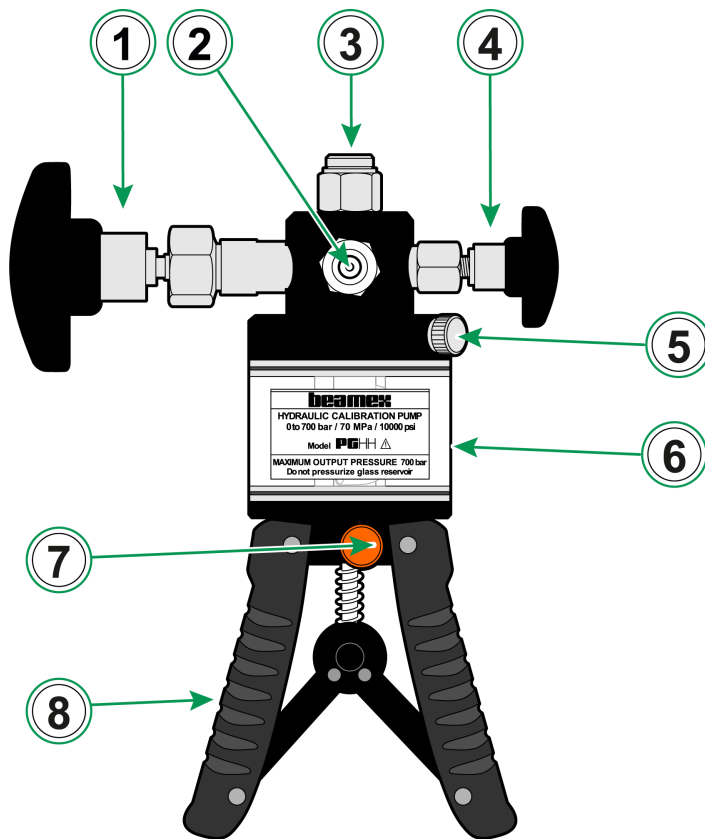
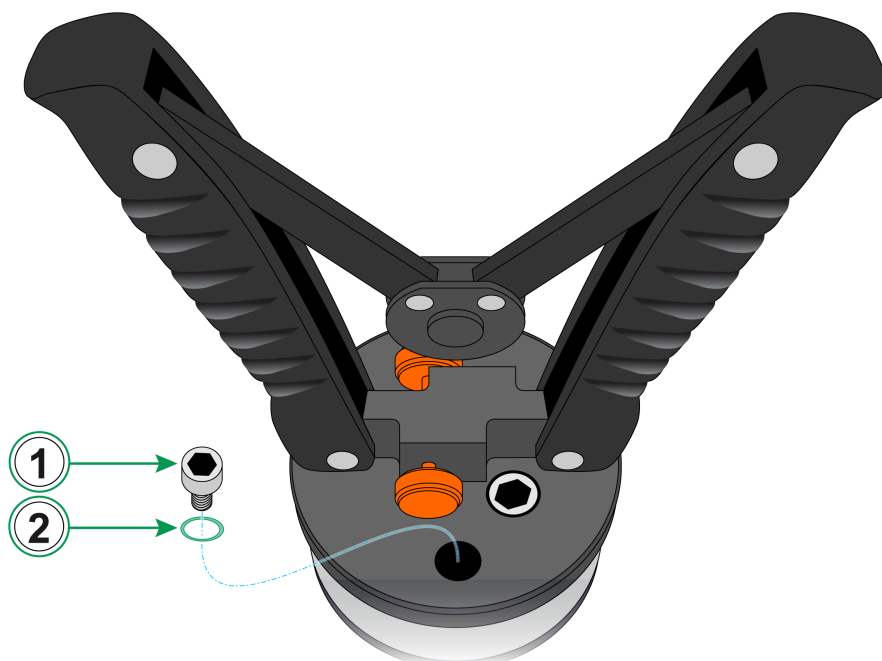
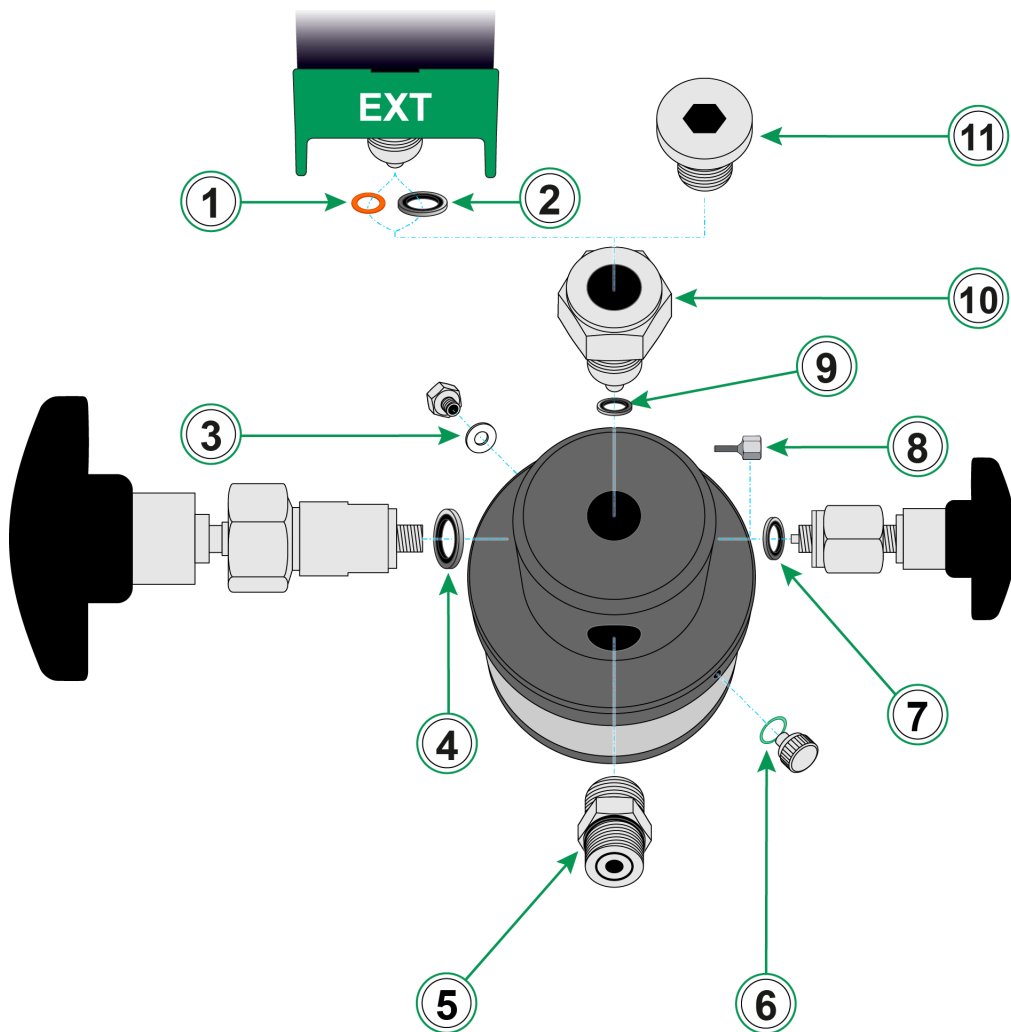
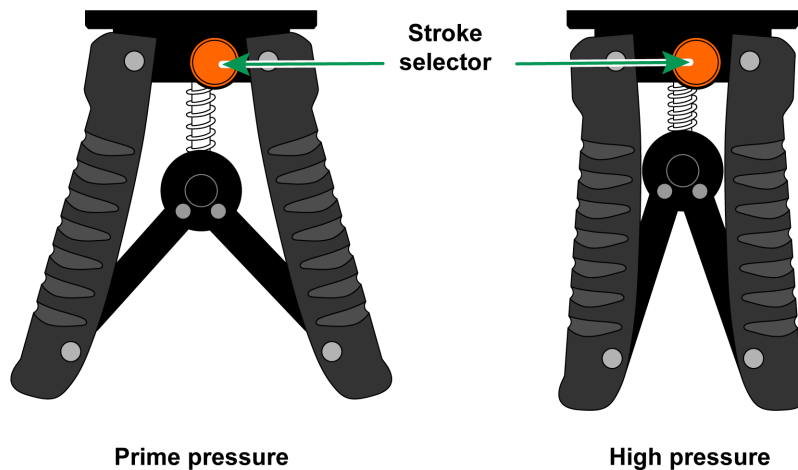

Figure 1: PGHH overview
Figure 2: PGHH, bottom view
Figure 3: PGHH, detailed top view
Figure 5: Selecting prime pressure versus high pressure mode with Stroke selector
For detailed picture of the fittings see Figure 3: PGHH, detailed top view.
1. Remove the **PGHH** G1/4" male pressure plug from the pressure fitting (3 in Figure 1: PGHH overview) on top of the pump.
3. Remove the Reservoir filling plug (5 in Figure 1: PGHH overview). Fill the reservoir (to at least 2/3 and max. 3/4) with the appropriate fluid (don't exceed the maximum level) and fasten the plug.
4. Connect the Pressure Hose to the Bx 1215 fitting (2 in Figure 1: PGHH overview) and leave the other end loose. Adjust the Fine adjust (1 in Figure 1: PGHH overview) to the bottom (fully clockwise). Close the Vent valve (4 in Figure 1: PGHH overview) by turning it fully clockwise.
6. Make sure the Stroke selector (7 in Figure 1: PGHH overview) is set to prime (fully out). If not, squeeze the handles fully and press the Stroke selector (see Figure 5: Selecting prime pressure versus high pressure mode with Stroke selector).
Warning: Do not overtighten the Vent valve (4 in Figure 1: PGHH overview). If overtightened, the Release valve tappet (8 in Figure 3: PGHH, detailed top view) or top of the pump may get damaged or even the whole Vent valve may break.
Warning: If the pressure continues to drop steadily, vent the system and check that all the connections are made correctly. Additionally, check the seal 9 and seal 1 or 2 (see Figure 3: PGHH, detailed top view). Change them, if they look worn or damaged.
Warning: Keep the **PGHH** in an upright position during your entire calibration procedure. Upright position will ensure that the replacement air gets in and out of the Reservoir through the Pressure Compensation Screw (3 in Figure 3: PGHH, detailed top view) during generating and releasing the pressure (when the fluid level is decreasing and increasing inside the Reservoir). If the airflow is blocked, the Reservoir may break.
Note: If the **PGHH** is used with the distilled water, remember to empty the Reservoir and let the pump dry out after each use. To empty the Reservoir unscrew the Reservoir filling plug (5 in Figure 1: PGHH overview) and the Reservoir drain screw at the bottom of the Reservoir (1 in Figure 2: PGHH, bottom view).
Note: If Beamex EXT External Pressure Module is connected on top of the pump, you don't need the hose to perform the test and you have to remove it from the fitting for the Pressure Hose (see 2 in Figure 1: PGHH overview).
Additionally, check the condition of the Pressure compensation screw (3 in Figure 3: PGHH, detailed top view). It is important that it works properly and that the replacement air can flow into and out of the Reservoir through the Pressure compensation screw when generating the pressure. If the screw is stuck or clogged, the Reservoir may break. You can check the screw's condition by unscrewing it and blowing compressed air through it from the bottom side. At the same time check with your fingers whether the top part of the Pressure compensation screw is moving slightly, due to the pressure. Otherwise, replace the Pressure compensation screw with a new one.